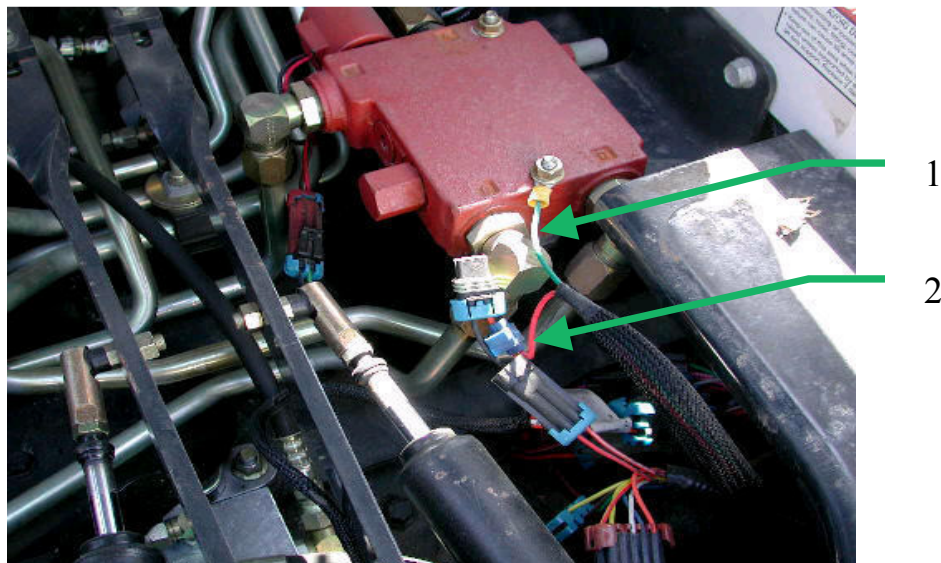

Figure 2.
- E. Wire in your ground and power. Splice power wire to any 12 volt power controlled by key switch. See figure 2. (items 1 & 2)